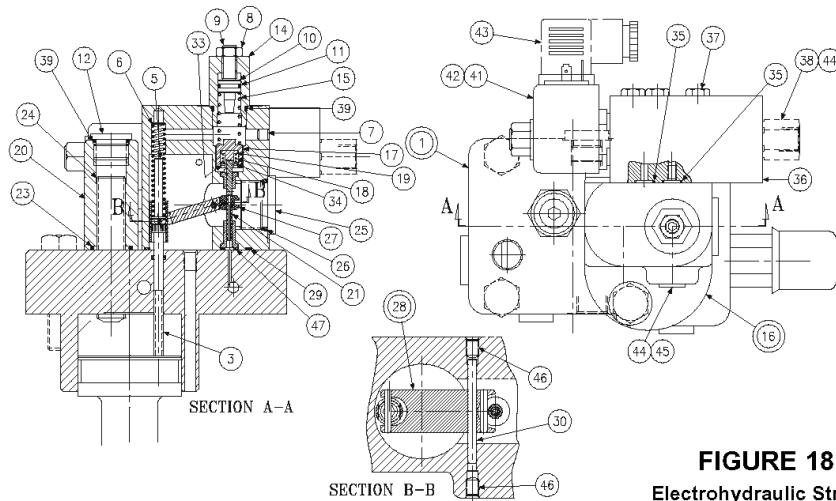
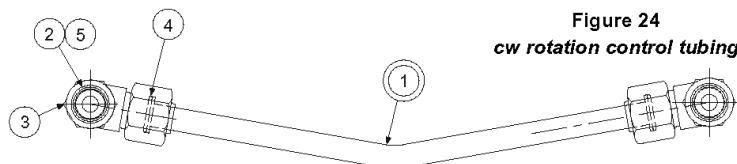

FIGURE 18
Figure 24
PARTS LIST FOR FIGURE 18
1. **See Figure 18.** Remove 3 screws (37) holding block (36) to body (16).
2. Remove 2 screws holding body (16) to cap assembly (1).
3. Remove all parts from body (16) except pin (30) and arm assembly (28). It is not necessary to remove these parts unless broken or worn. Examine parts for wear or damage.
4. Remove screw (3). Examine head for excessive wear, and body for smooth sealing surface with O-ring.
2. Install spool (6) into bore as shown. Install spring (11) over end of spool.
3. Install O-ring (8) on spring retainer (7). Install retainer (7), screw (13), and nut (14) in plug (4).
4. Install O-rings (10) and (15) on plug (4). Install plugs (4) and (12) in body (1). Install .047", 1,19 mm orifice (19), and .071", 1,98 mm orifice, (20) and plugs (2) and (17). Torque plugs. Install O-ring (21) in cap.
5. Turn screw (13) in until spring retainer (7) contacts spring (11). Turn an additional 1-1/2 turns and lock in position.
8. **See Figure 18.** Apply thread locking compound on threads of screw (3), lubricate the shank, thread through the cap into the control piston, and torque to 5 lb.*ft., 6.78 N*m.
9. Install minimum stop screw (24) and turn clockwise to stroke pump to full volume. Measure height from control cap to top of screw (3). With control piston at full displacement, dimension must be .74 +/- .03 in., 18,8 +/- 0,76 mm. Back out minimum stop screw (24) till there is no contact with control piston.
10. Press dowel (30) into body (16), through the link (28), to 1/4, 6,35 mm below surface, apply hydraulic sealant to threads of screws (46) and install over dowel (30).
11. Press spool (21) into retainer (19). Caution: do not use excessive force. Place spool/retainer assembly into spool (17) with spring (18) and washer (34). Secure with retaining ring (33).
12. While sleeve (27) is engaged into dowel on link (28), slide above spool assembly into bore of body (16), and through sleeve (27). Spool (21) must move freely and easily at all positions of the link (28).
13. Install proportional valve (41) in block. Torque to 20 ft.*lbs., 27 N m.
15. Assemble all other components into body (16) per above drawing. Torque the plug (12).
16. While spring retainer is engaging clevis pin (5) under dowel of link (28), slide the other opening of spring retainer over the top of the screw (3). Attach body assembly (16) to cap (1) with two screws and torque to 75 lb.*ft., 102 N m.
17. Install tubing assembly (Figure 24, 25).
Ref. Figure 18
PARTS LIST FOR FIGURE 24